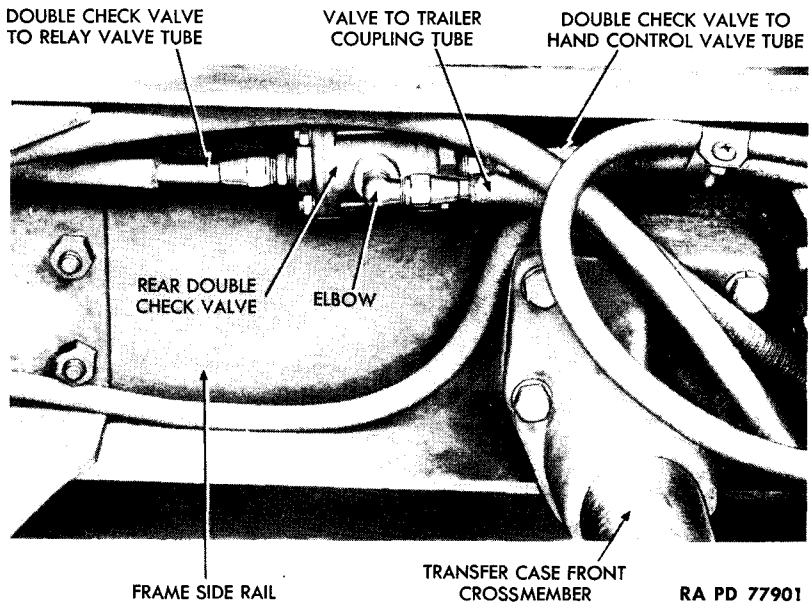

Figure 68 – Double Check Valve Installed
b. **Removal** (fig. 68). Disconnect the three air tubes from fittings at each end of valve and from elbow at center. Remove the two nuts, lock washers, and bolts which secure valves to frame side rail.
c. **Installation** (fig. 68). Position valve to frame side rail, and install the two bolts, lock washers, and nuts which secure valve to frame. Connect air tube to fitting at each end of valve. Connect air tube to elbow at center of valve, and refer to system diagram (fig. 60), if necessary. Start engine and build up air pressure. Check connections for leakage, and test operation of brakes. Leaks can be detected by applying soapy water to connections.